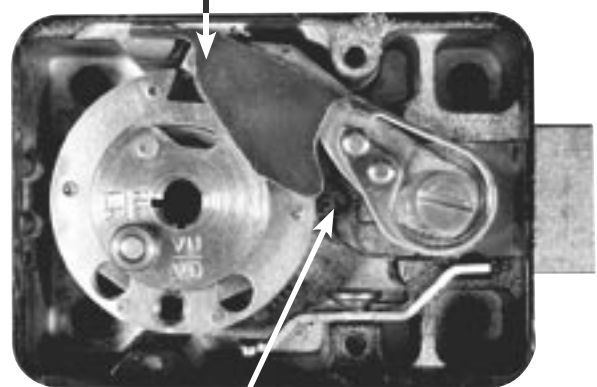

Figure 1
1. Remove the lock cover. Place the lock bolt in the extended position and the accelerator spring in the loaded position (Figure 1). **CAUTION: Do not remove the drive cam.**
The torque adjustment feature allows the wheel pack tension to be adjusted for maximum security. To adjust torque, remove the lock cover and insert a  $\frac{3}{32}$ " hex wrench into the adjusting gear (see Figure 1). Turn clockwise to increase torque or counterclockwise to decrease torque. This adjustment should only be performed by a skilled technician using a specialized torque measuring tool.